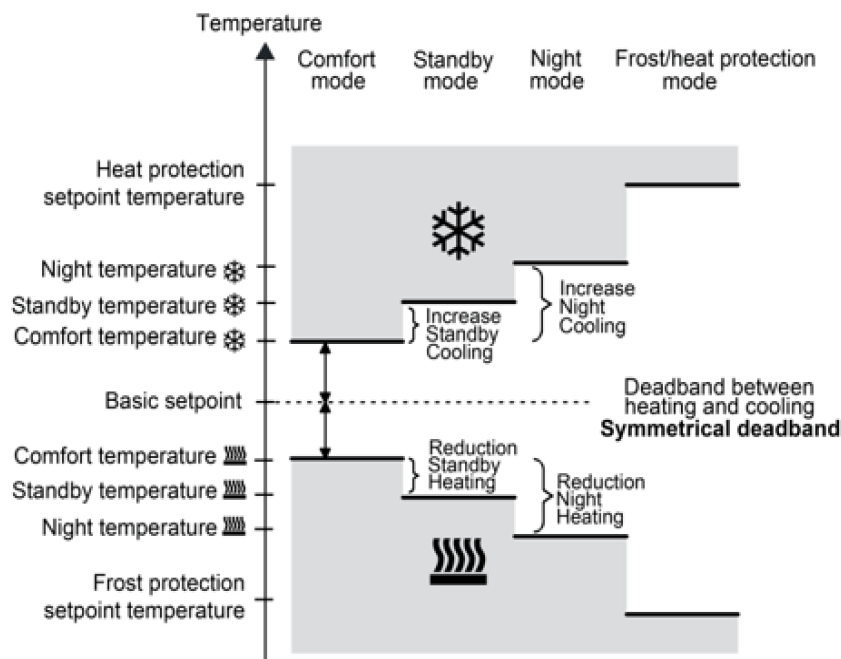

Figure 28: Overview of temperature adjustment in the controller
The controller has separate setpoints for each operating mode. If you follow the KNX design guidelines, these are all dependent on the base setpoint (see figure 28). This dependency makes it possible for the controller to switch between heating and cooling independently, since each setpoint can be clearly assigned as “too warm” or “too cold”.
The controller has separate setpoints for each operating mode, all of which are dependent on the basic setpoint. Standby heating and night heating are each to be understood as relative values to comfort mode. The adjustment always has a reducing effect on the setpoint temperature. This means that night mode/standby mode for heating always has a lower (or at most the same) setpoint temperature as comfort mode (see figure 28).
The opposite is true for cooling: Here, specifying the night/standby adjustment always increases its setpoint temperature compared to the base setpoint (see figure 28).
The sizes shown in figure 28 are KNX standardized behaviour. All parameters can be adjusted accordingly using the MeTa² application. The basic setpoint can be shifted via the bus.
- In night mode, only the difference between this mode and the basic setpoint temperature is changed. As figure 28 shows, in heating mode the night mode setpoint temperature is always less than or equal to the comfort temperature. Therefore, adjustment in heating mode is only possible up to this temperature. Conversely, in cooling mode, the adjustment is less than or equal to the comfort temperature of cooling mode. Adjustment is therefore only possible up to this temperature.
- In standby mode, only the difference between this mode and the basic setpoint temperature is changed. The same applies here: As figure 28 shows, in heating mode the setpoint temperature for standby mode is always less than or equal to the comfort temperature. Therefore, in heating mode, adjustment is only possible up to this temperature. Conversely, in cooling mode, the adjustment is less than or equal to the comfort temperature of cooling mode. Adjustment is therefore only possible up to this temperature.